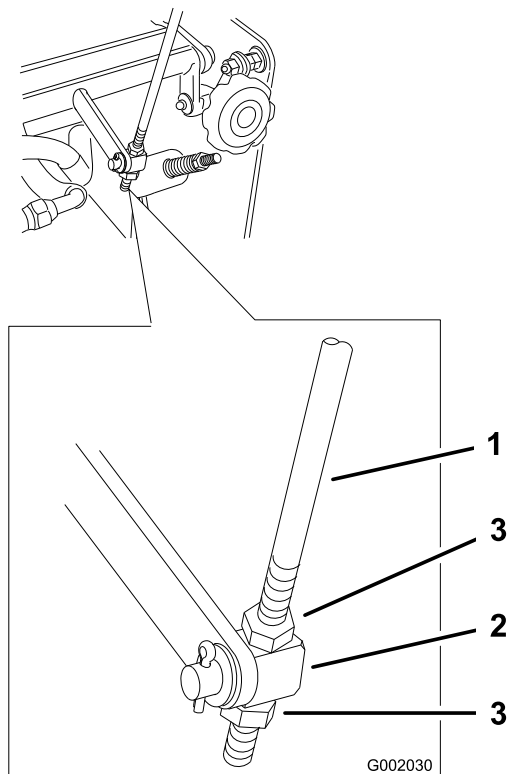

Figure 18
- Loosen the nuts holding the swivel connected to the speed control crank (Figure 18).
- Adjust the swivel on the speed control rod and tighten the nuts against the swivel (Figure 18).
- Adjust the control rod length by rotating the control rod in the rod fitting (Figure 18).